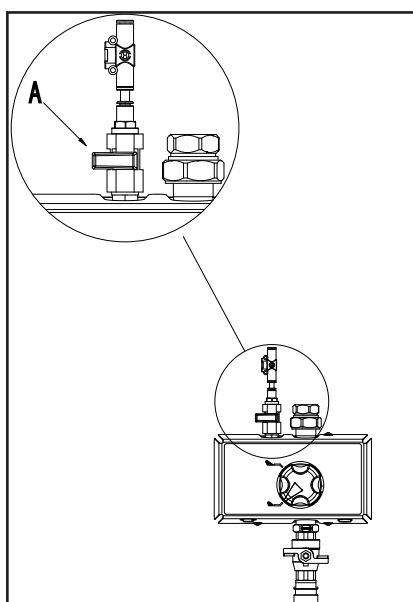

Fig. 7 110002092
1. Check that water- and air supplies for the system are open. (see A, Fig.7, air). Activate central chemical supply if present.
2. Close the air supply(A, Fig. 7)